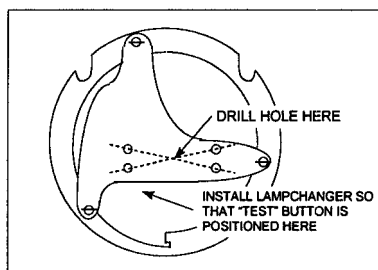

Figure 2-3
- f. Move the level ninety (90) degrees from your first position and readjust.
- k. If the FLAC-300 flasher is going to be used, check the 250mm mounting bracket to see if a hole exists in the center to mount it. If a hole is not there, find the center of the bracket by drawing two diagonal lines connecting the lampchanger mounting holes. Drill a 1/4" hole at the intersection to mount the flasher with an 8-32x5/16" screw, as shown in Figure 2-3.